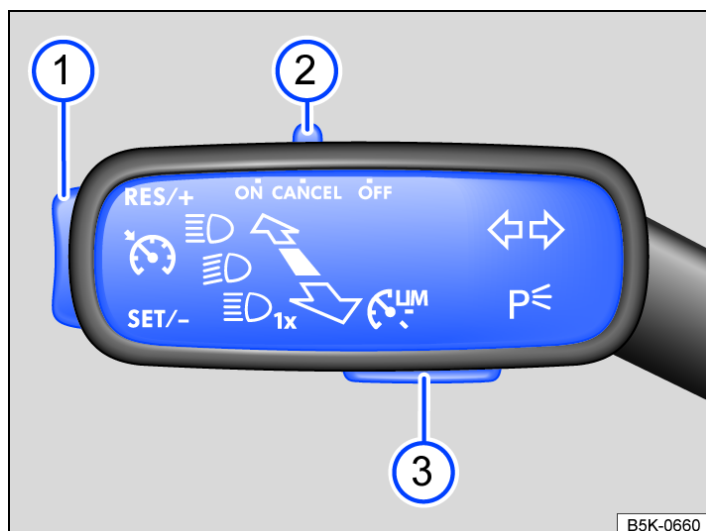

Fig. 1 On the left of the steering column: switch and buttons for operating the speed limiter.
— Move switch → Fig. 1 (2) to position **ON**.
— Press button → Fig. 1 (1) in the area **SET/-** while driving.